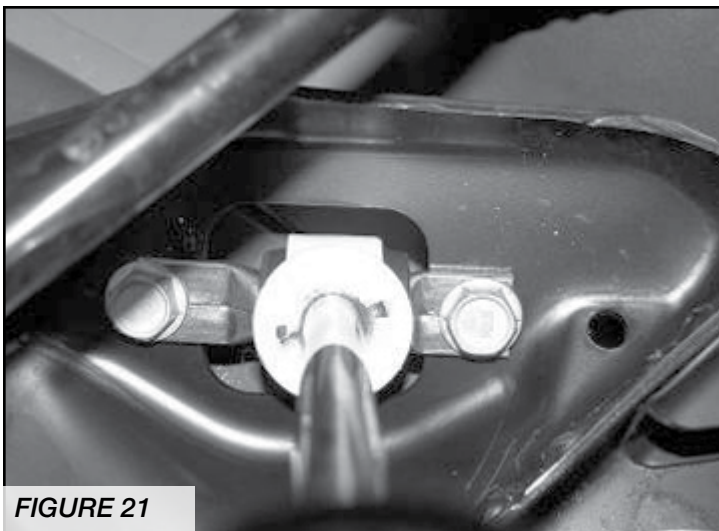

FIGURE 21
25. Install the new supplied Fabtech shocks Use the factory upper and lower hardware to mount the shocks. Torque the upper hardware to 29 ft-lbs and the lower to 75 ft-lbs. SEE FIGURE 21